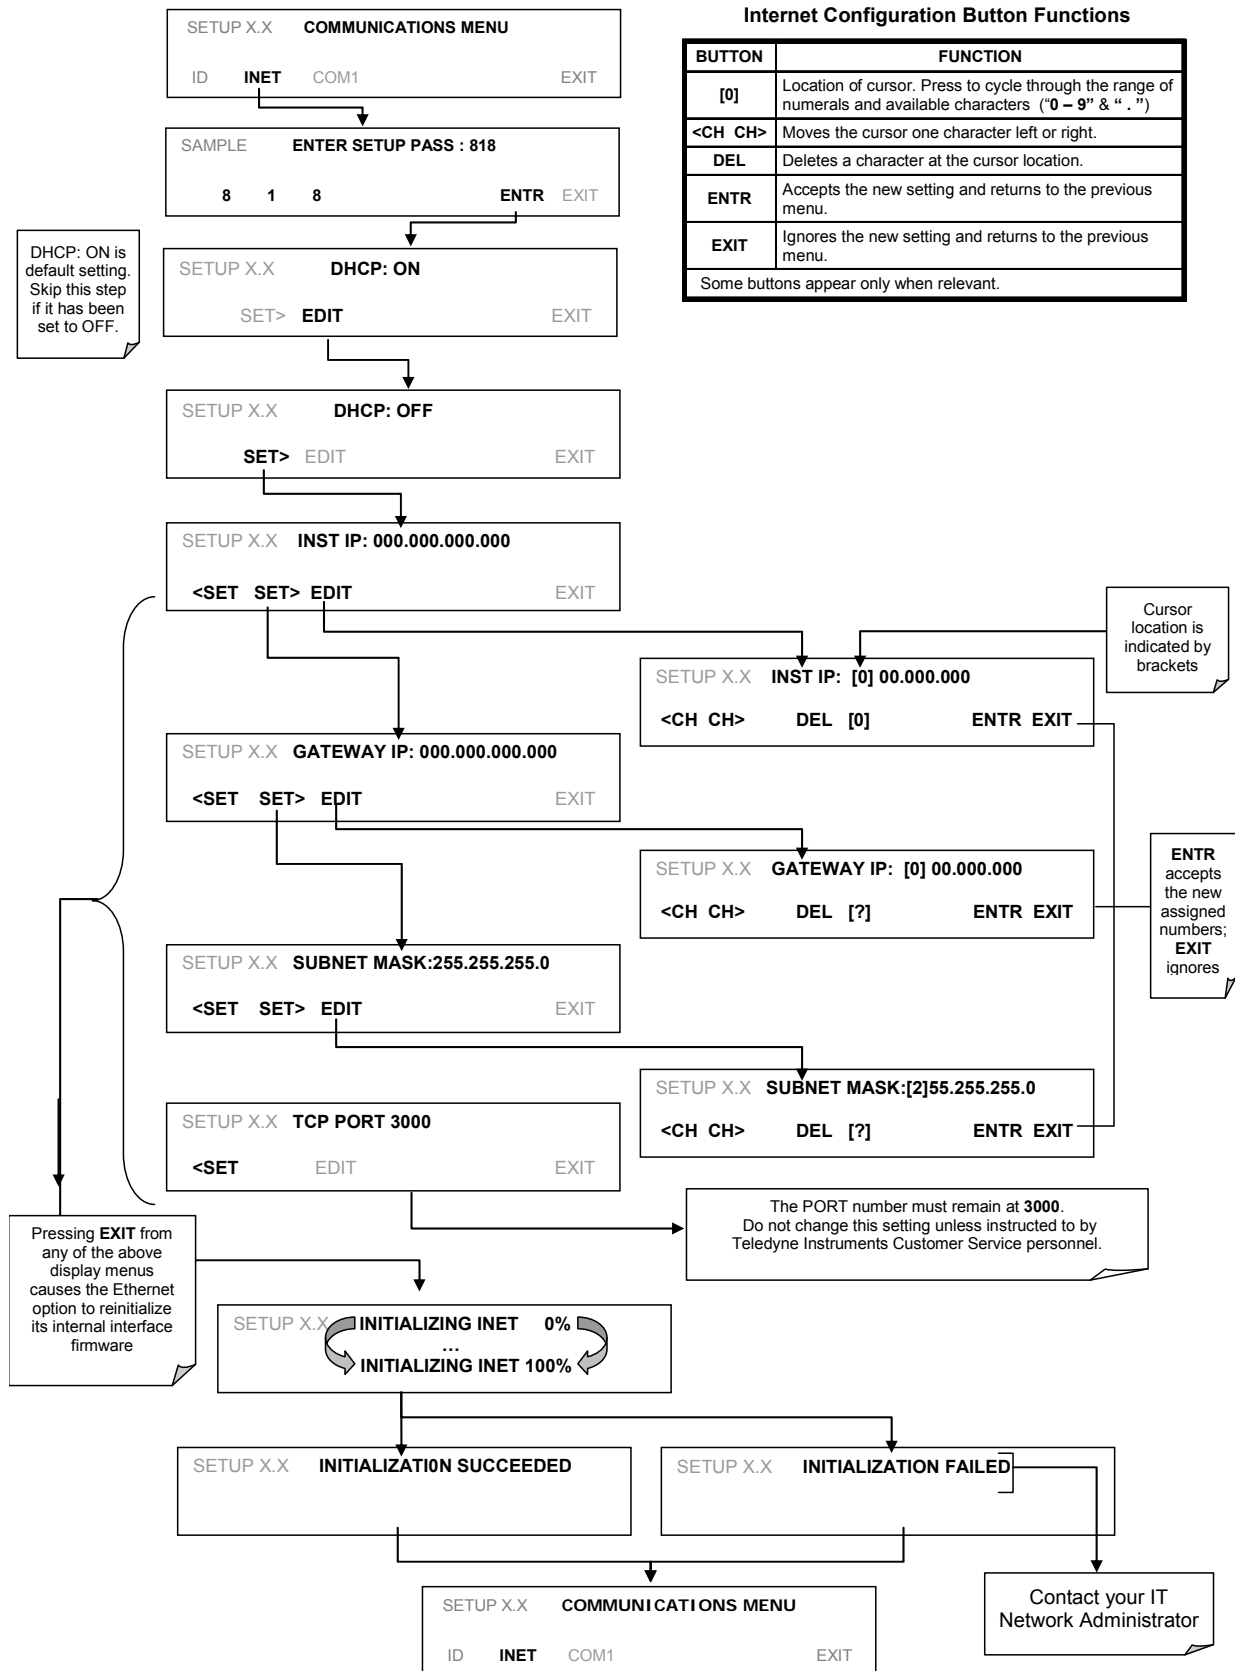

Figure 4-7: COM – LAN / Internet Manual Configuration
3. Follow the setup sequence as shown in Figure 4-7, and edit the Instrument and Gateway IP addresses and the Subnet Mask to the desired settings.